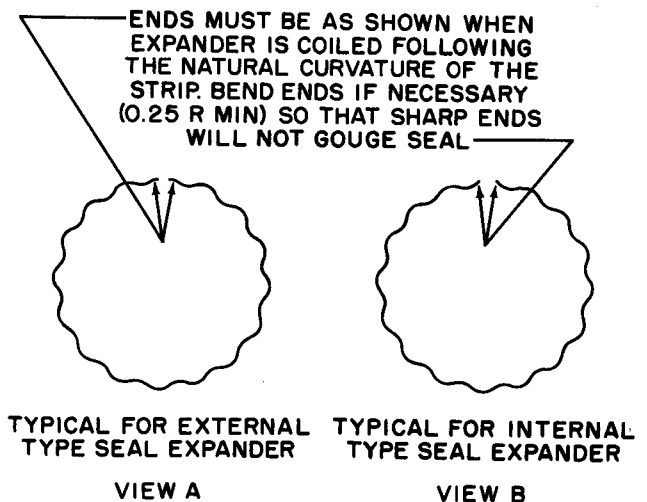

Fig. 4-1. Teflon sealring expanders
(1) Coil the expanders as shown in figure 4-1. Inspect the expander ends for curvature toward the bottom of the sealring grooves (inward for external grooves; outward for internal grooves).
(2) Install the expander into the groove.
(3) Starting at a point opposite the open ends of the expander, install the Teflon sealring. Do not stretch or deform the sealring more than absolutely necessary for installation. Work both directions from the starting point until the sealring is completely installed. Do not use tools to force the sealring — use fingers only.
(4) Lubricate the sealring and center it radially in respect to the piston or part on which it is installed.